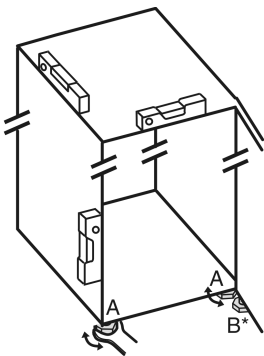

Fig. 19
- ▶ Unscrew the adjustable foot Fig. 19 (A) using the enclosed open-end spanner and a spirit level until the appliance is firmly aligned and level.
- ▶ Unscrew the adjustable foot Fig. 19 (B) on the swap bearing block with the enclosed open-end spanner until it rests on the floor.
- ▶ Turn the adjustable foot Fig. 19 (B) a further 90° at most to avoid damaging the door.